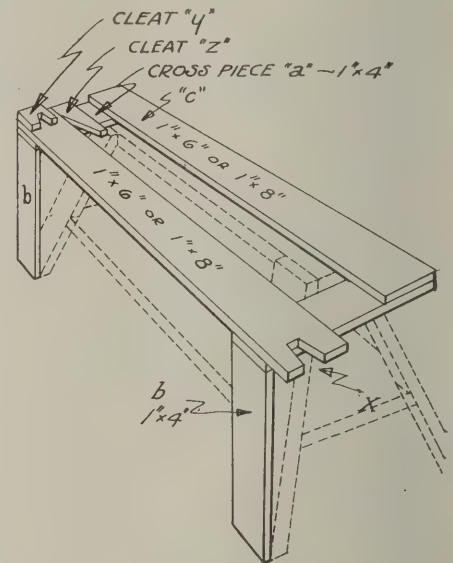

Fig. 6—Combination bench and horse
nation bench and horse which carpenters in this locality use considerably. In Fig. 6 you will see that we take an ordinary carpenter horse and nail on two cleats, (a, a), of 1x4-inch or 1x6-inch, then add legs, (b, b); nail boards, (c, c), on top; cut notch, (X), and add cleats, (y and z); and bench is ready for use.